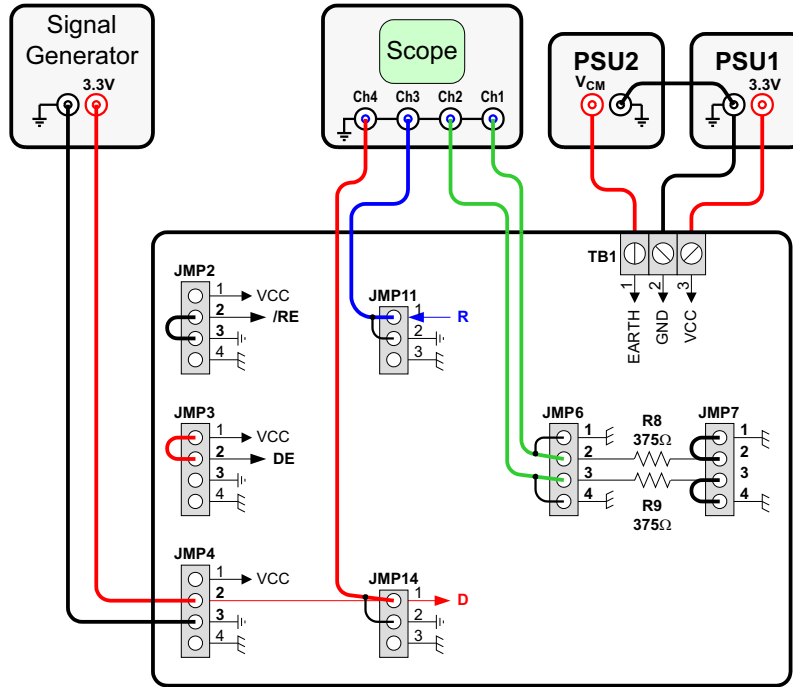

Figure 4-4. RS-485 Half-Duplex EVM Setup for Maximum Loading
- replace the previous wire-bridge at TB1 with a second power supply unit (PSU2) and connect the ground terminals of both, PSU1 and PSU2 with a wire-bridge, as shown in Figure 4-4.
Note that Figure 4-4 only shows the wiring of PSU2 for positive common-mode voltages. For negative V_{CM} , connect the ground terminal of PSU2 with pin 1 of TB1 (EARTH), and the V_{CM} -output of PSU2 with the ground terminal of PSU1.